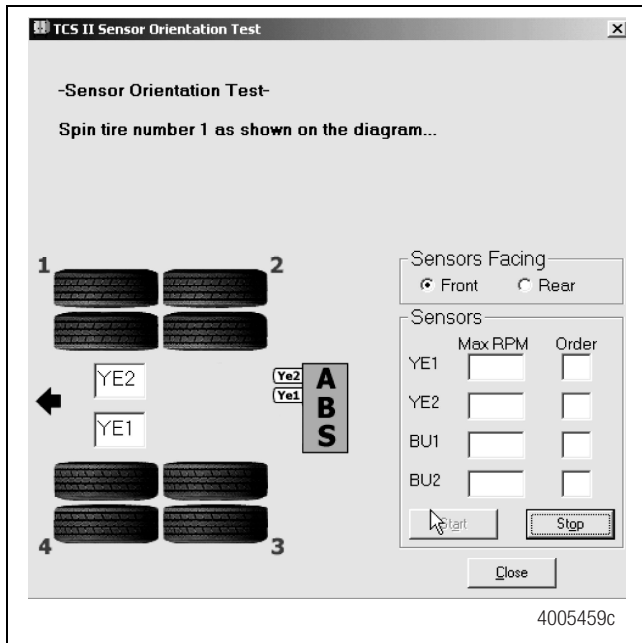

Figure 17
- Click on **Start** to begin the test. Figure 17.